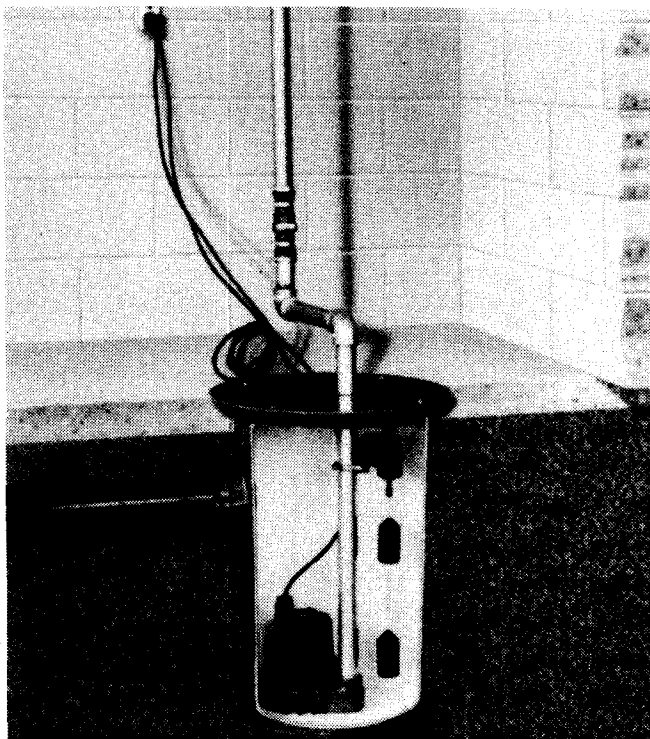
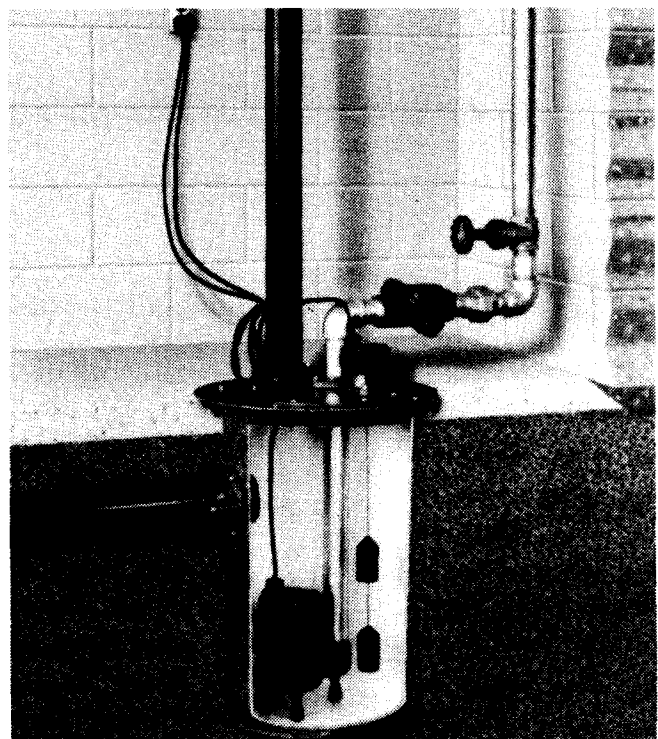

FIG. 3
FIG. 4
MOUNTING—Switch can be mounted on the discharge pipe under the cover as shown in Fig 3 or can be mounted through flange on pump cover for sewage pump application as shown in Fig 4.
When switch is mounted on discharge pipe Fig 3, the switch must be positioned so that weights hang free without touching pump and are opposite inlet pipe as shown.
When switch is mounted through cover Fig 4, cable must be pre-cut and weights set on cable before installing.
In either type installation, Fig 3 & Fig 4, be sure all excess pump and control cord is taken above basin and is coiled and taped as shown Fig 3 & Fig 4. Do not leave excess cable in basin as it may tangle with weights and cause switch to malfunction.
Where switch is installed through flange Fig 4, be sure sealing "O" ring is in place in flange so that switch body will seal when pushed into flange. When metal flange is supplied, adjust set screw in flange so that switch will be held in place.
- 6. Be sure excess pump and control cord is coiled and taped above sump cover. See Fig 3 & Fig 4.